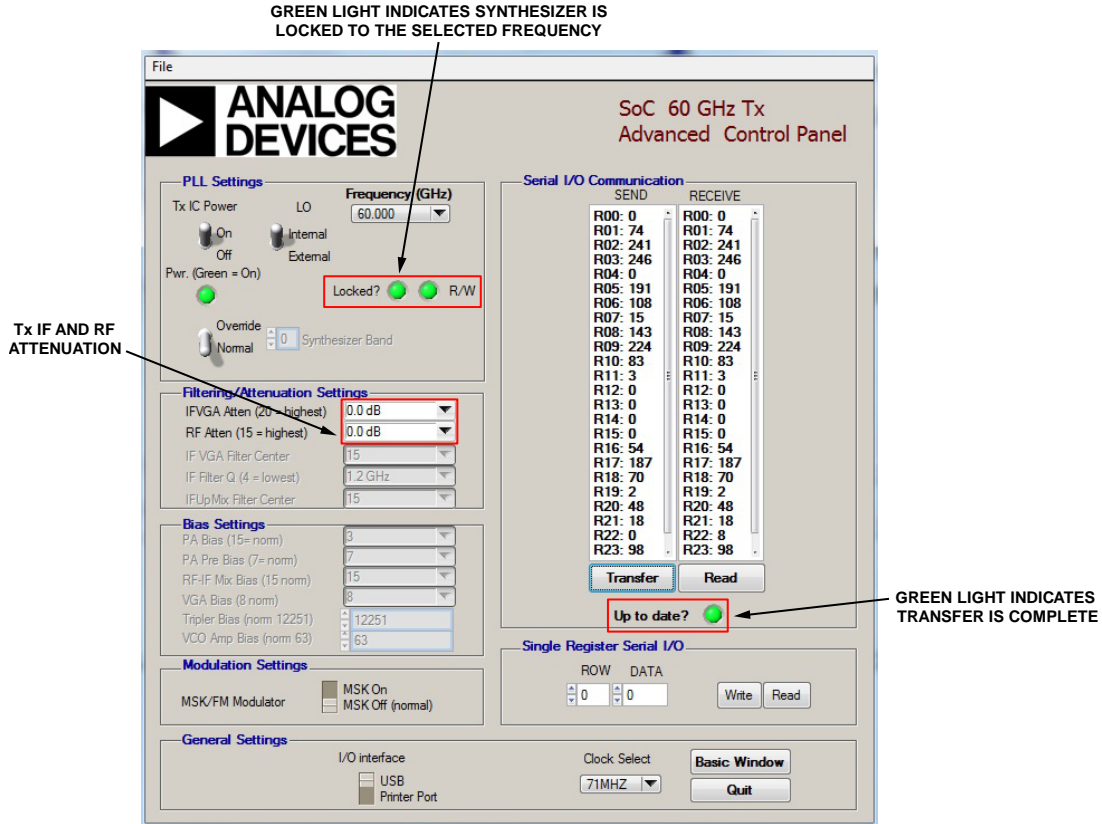

Figure 6. SoC 60GHz Tx Advanced Control Panel Window for the HMC6300 Tx GUI After Successfully Programming the HMC6300 to 60 GHz
3. If the **HMC6300** device is successfully programmed, the **R/W** LED under **PLL Settings** turns green, indicating the read/write operation is properly executed. If the device locks to the selected frequency, the **Locked?** LED under the **PLL Settings** turns green (see Figure 6).
Figure 6 shows a successful data transfer and synthesizer lock. The transmitter then functions at full power on the selected channel. The Tx IF and RF attenuators, under the **Filtering/Attenuation Settings**, can be applied to reduce the Tx output power, if required.